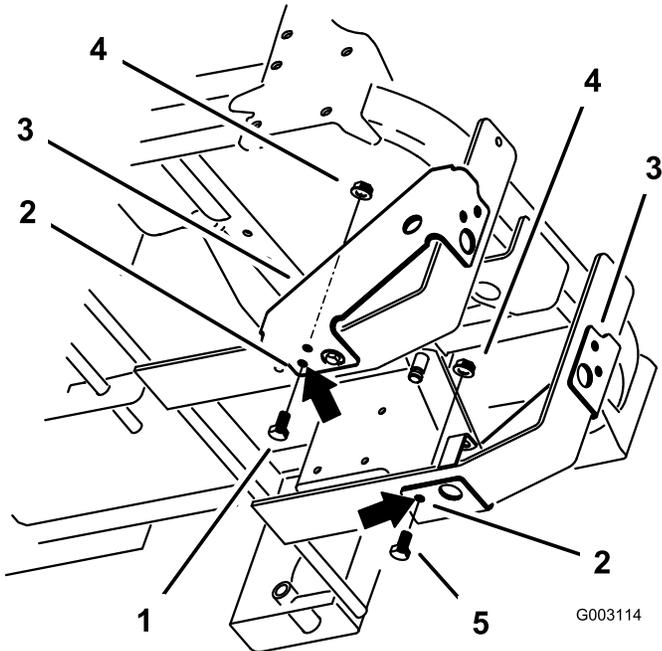

Figure 2
- Install the left gusset with a bolt (3/8 x 1 inch) and a flange nut (3/8 inch) through the existing hole in the fixed idler bracket and frame (Figure 2.) Do not over tighten the bolt and make sure the gusset is against the rear frame.
- To mark the holes for the right gusset, use the existing hole in the frame as shown in (Figure 2.).
1. Install the left gusset with a bolt (3/8 x 1 inch) and a flange nut (3/8 inch) through the existing hole in the fixed idler bracket and frame (Figure 2). Install 3 bolts (3/8 x 7/8 inch) and 3 flange nuts (3/8 inch) in the holes drilled for the left gusset.